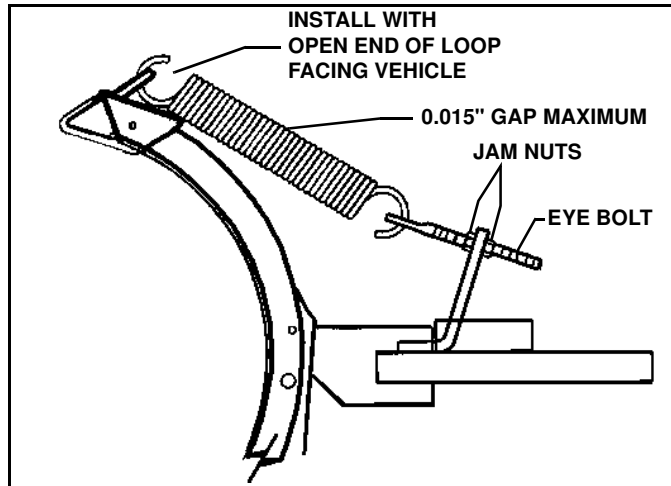

Figure 2-14
4. Only one set of eyebolt mounting holes are present in the swing frame spring brackets on these models. A jam nut on either side of the spring bracket secures each eyebolt and provides for adjustment. (See Figure 2-14)